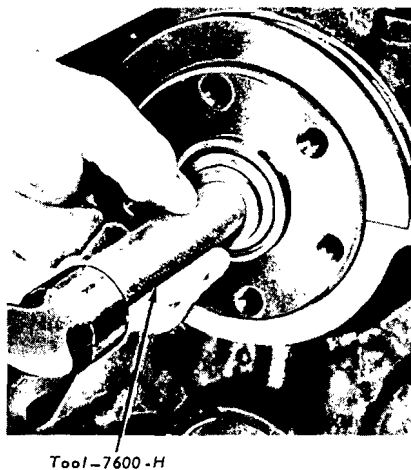

FIG. 61—Clutch Pilot Bearing Installation
4. Install the pilot service bearing as shown in Fig. 61.